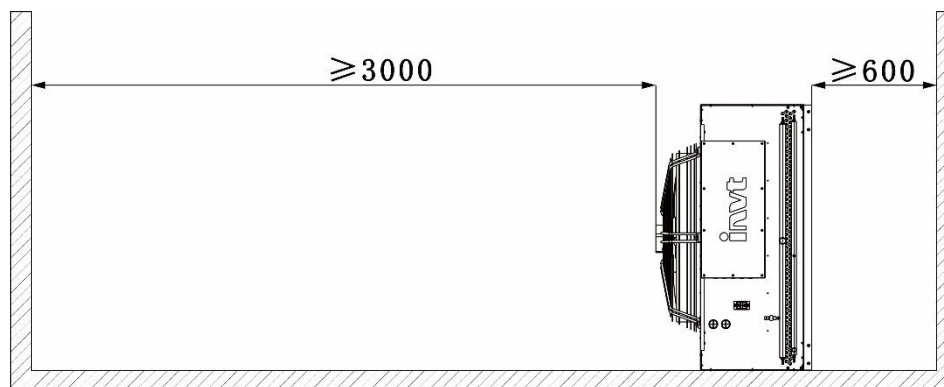
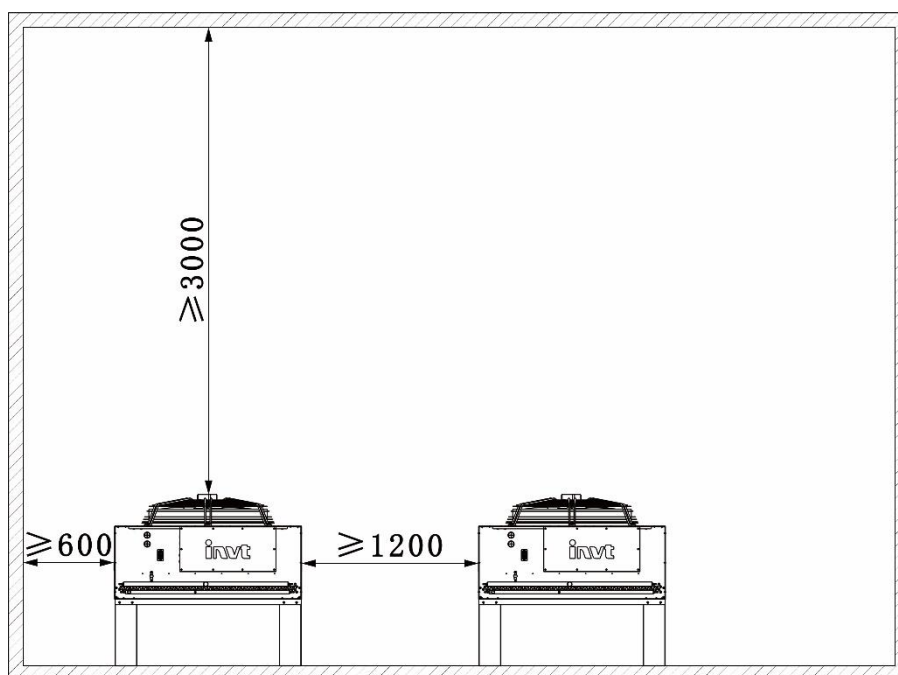

Figure 2-4 Horizontal installation space requirements (unit: mm)
Figure 2-5 Vertical installation space requirements (unit: mm)
- 2) No obstruction within at least 3000mm of the outdoor unit outlet refer to Figure 2-4, Figure 2-5.